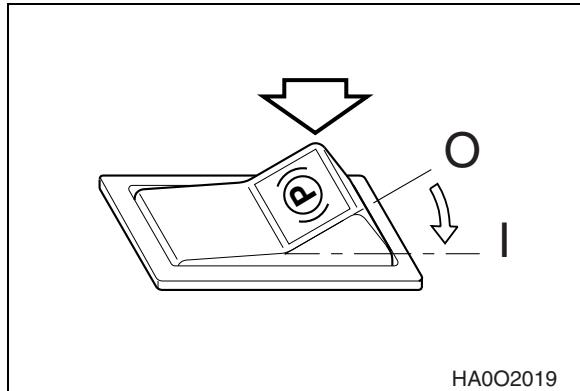

Figure 8
7. To add oil, remove transmission fill cap (Figure 8) from transmission oil fill pipe. Refer to "Table of Recommended Lubricants" on page 4-3, of this manual for recommended oil for the operating conditions.